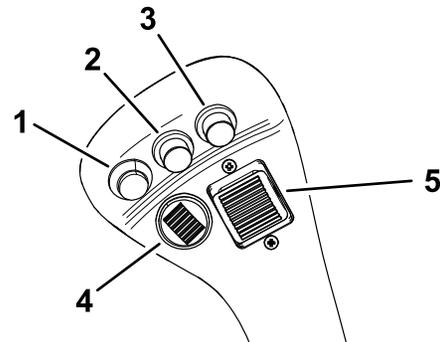

Figure 20
- To operate a hydraulic attachment in the forward direction, press the right button (Figure 20).
- To operate a hydraulic attachment in the reverse direction, press the middle button (Figure 20).
- To stop the hydraulic attachment, press the left button (Figure 20).
Rotate the extension lever forward to extend the loader arms (Figure 20); rotate the lever rearward to retract them.